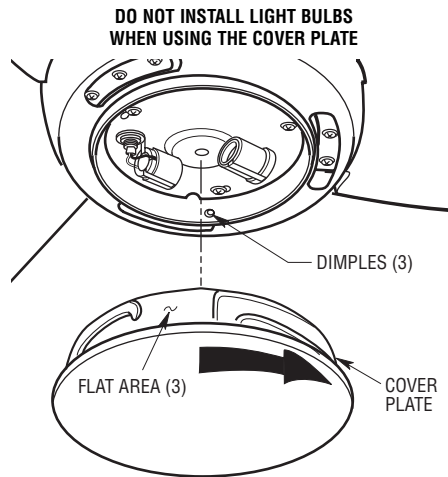

Figure 15
- 1. Place the cover plate onto the lower housing aligning the three flat areas on the top flange of the cover plate with the three pins on the inside of the fan motor housing assembly (Figure 15). Then turn the cover plate clockwise until it stops turning.